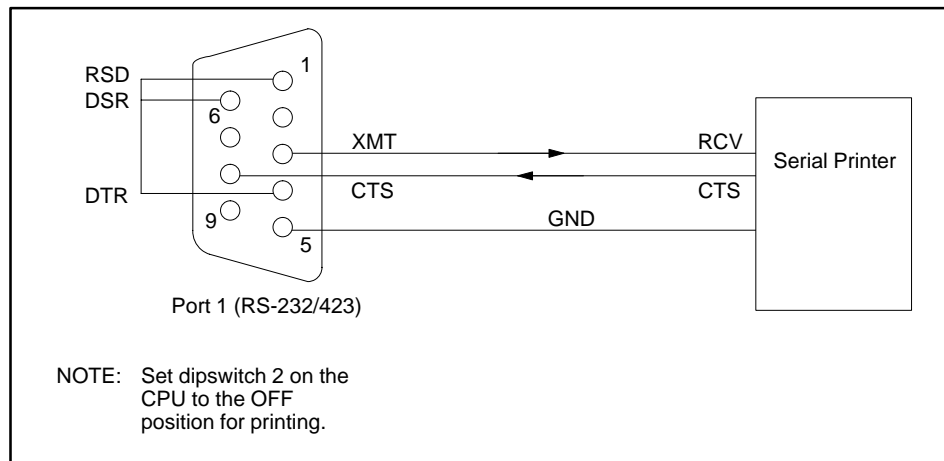

Figure 6-24 545/555 READY/BUSY Printer Handshaking
- READY/BUSY printer handshaking; see Figure 6-24.